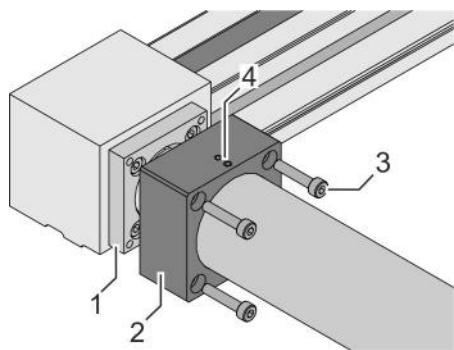

Fig. 28: Assembling the adapter flange
10. ➤ Slide the adapter flange (Fig. 28/2) onto the pulley boxes/intermediate plates (Fig. 28/1).
11. ➤ Tighten 4 screws each (Fig. 28/3), alternating diagonally:
12. ➤ Position the protective tube in the adapter flanges and fix them using the set screws (Fig. 28/4).